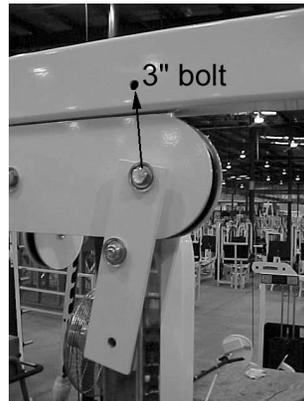

Figure 13. Mount adjustable pulley bracket.
- Mount adjustable pulley brackets.** When shipped, the adjustable pulley brackets look like the ones shown in Figure 13. The bolts need to be removed and the bracket needs to be positioned so that the top of the bracket is in the top hole as shown by the arrow in Figure 13. Use a 3" bolt with flat washers, end cap washers and end caps. When you remove the bolts, leave the pulley bolt and pulley out since you will need to thread the cable with the pulley removed.